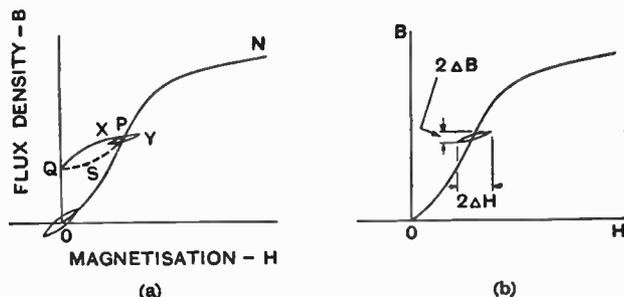

Fig. 9.—Curves showing the effect of D.C. feed on the permeability of the choke core.
Suppose we examine the influence of these three quantities separately. The inductance *per se* is a quantity which depends upon the number of turns, the diameter and length of the coil, and upon the iron core. The latter should have an air gap if large direct currents pass through the winding, to avoid magnetic saturation. The iron should consist of laminations, since we are dealing with alternating currents of audio-frequency. The permeability of the iron, by virtue of which the inductance of the coil is augmented manifold, depends upon three things: (1) the D.C. feed current, (2) the value of the ripple current, (3) the frequency of the ripple current. In fact, the state of the iron is identical with that in an intervalve transformer, where the A.C. magnetisation is superposed upon the D.C. magnetisation. The influence of the D.C. feed on the permeability is illustrated in Fig. 9, which is reproduced from a former issue.1